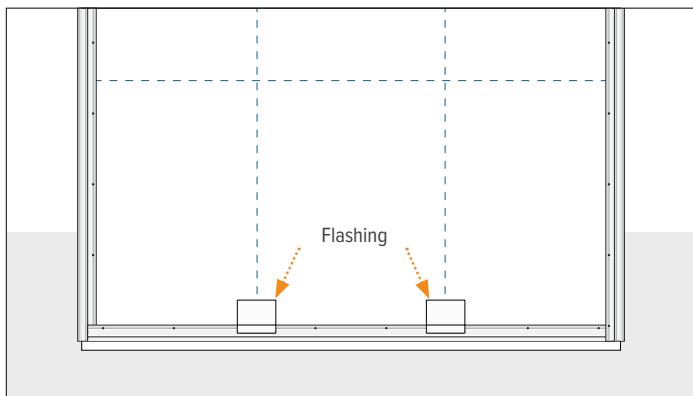

Figure 14.1
4. Install 8" x 8" flashing (building paper) over the nailing flange of the horizontal trim (Figure 14.1). Centered behind the midfield vertical trim location (EZ.7).